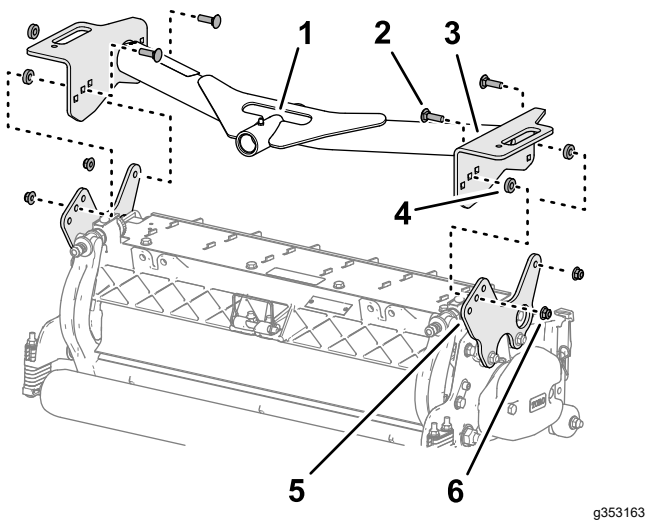

Figure 19
- Align the hole in the plates rear-carrier frame with the hole in the cutting unit mounting plates (Figure 19).
- Align the holes in the plates of the front-carrier frame with the holes in the cutting unit mounting plates (Figure 19).
- Align a spacer between the carrier plate and mounting plate (Figure 19), and loosely assemble the plates and spacer with a carriage bolt (3/8 x 1-1/4 inches) and flange locknut (3/8 inch).